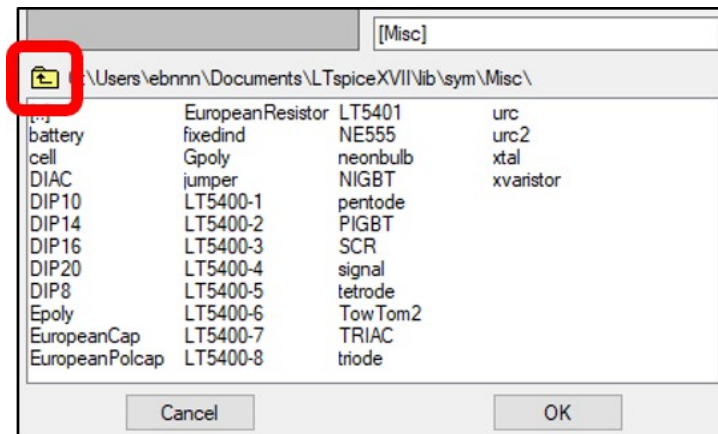

Figure 20: LTspice contents of miscellaneous folder.
- Double click on *[Misc]* to open the miscellaneous folder. You will see the components listed in Figure 20.
Tip: To navigate back, click the *Up One Level* icon (folder icon) indicated in Figure 20 or click the *[..]* folder. Try to navigate the directories and make sure you are comfortable with the interface.